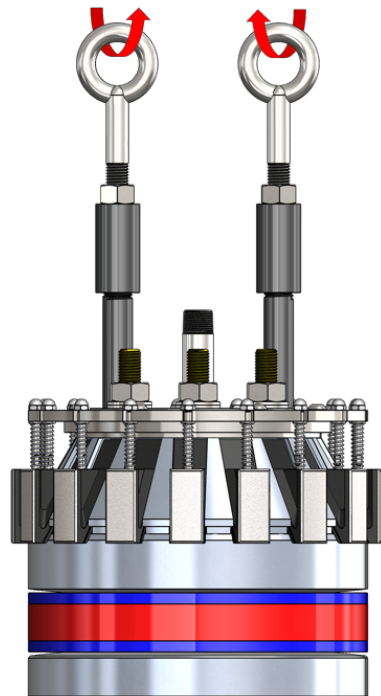

Figure 25: Properly Installed Lifting Eyes for Vertical Lifting
- Fasten the provided **Vertical Lifting Eyebolts(30)** and **Eyebolt Nuts (31)** to both **Lifting Standoffs(26)**. Note, the **Vertical Lifting Eyebolts'(30)** thread is $\frac{3}{4}$ -10.
- While holding the **Vertical Lifting Eyebolt(30)** in the correct orientation, snug its **Eyebolt Nut(31)** against the top of the **Lifting Standoffs(26)** and turn the **Eyebolt Nut(31)** an additional $\frac{1}{2}$ turn. Do the same to the other **Vertical Lifting Eyebolt(30)** and its **Eyebolt Nut(31)**. See Figure 25 for properly installed **Vertical Lifting Eyebolt(30)** and **Eyebolt Nut(31)** illustration.
- When lifting vertically, both **Vertical Lifting Eyebolts(30)** and **Eyebolt Nuts (31)** must be used.